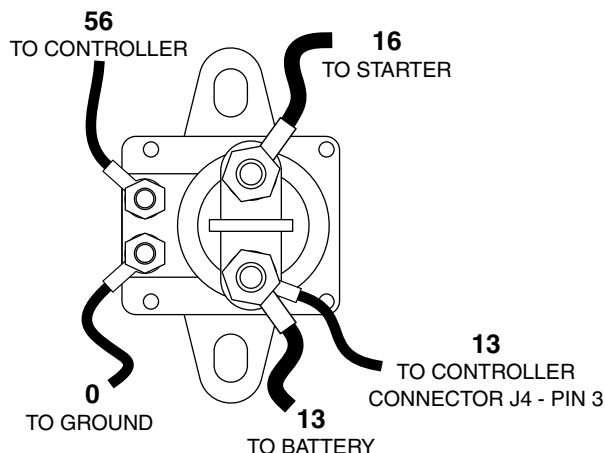

Figure 137. The Starter Contactor (Single Cylinder Units)
The Starter Contactor (SC) is located in the engine compartment and is mounted against the firewall. The SC provides the electrical connection to safely engage the starter. See Figure 137.